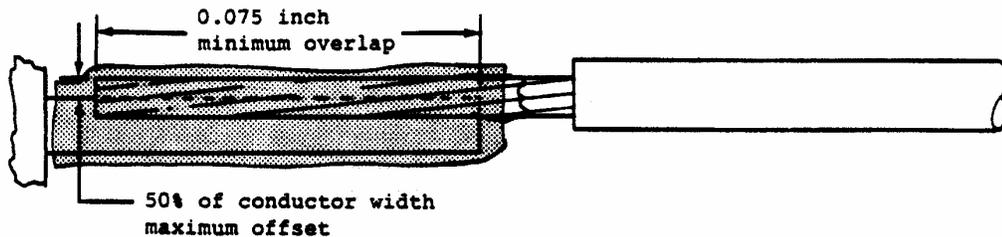

Figure 6-1. Inspection for Conductor Positioning
1. Each wire conductor must be positioned on its terminal as shown in Figure 6-1.